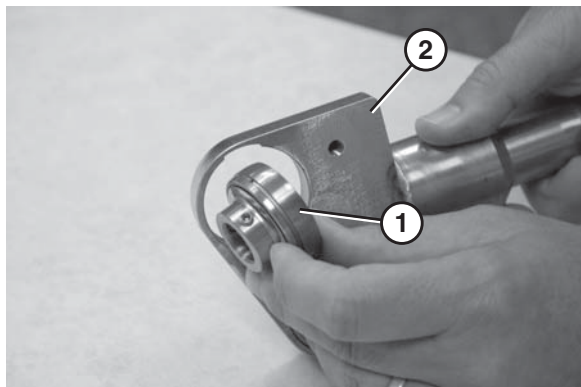

**Figure 97**
3. Using a bearing removal tool (Figure 97, item 1) remove the bearing (Figure 97, item 2).